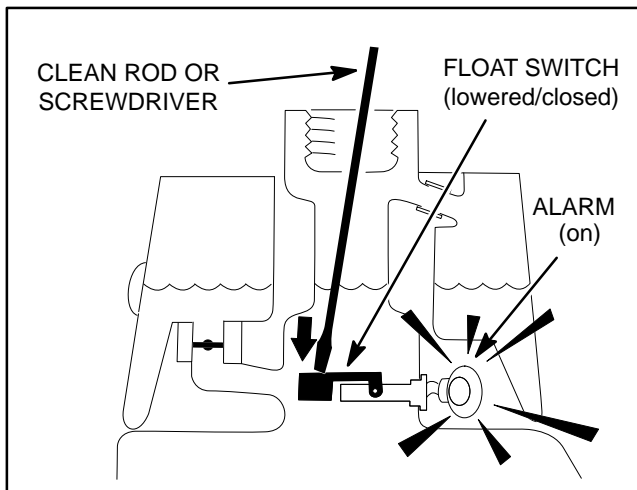

Figure 95
1. If the oil level sensor is connected to the main wire harness, remove hydraulic tank cap from filler neck of hydraulic reservoir. Start the engine. Insert a clean rod or screw driver into filler neck and gently push down on sensor float (Fig. 95). Alarm should sound and console leak detector indicator light should illuminate after a one (1) second time delay.